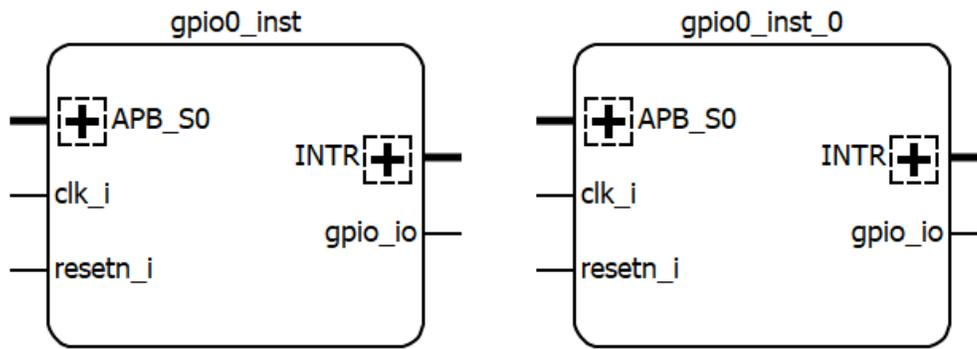

Figure 2.38. Duplicate a Module
- Select the desired module and click **Clone** . Or, right-click on the module and choose **Clone** . A copy of the schematic block appears with a new instance name (Figure 2.38).